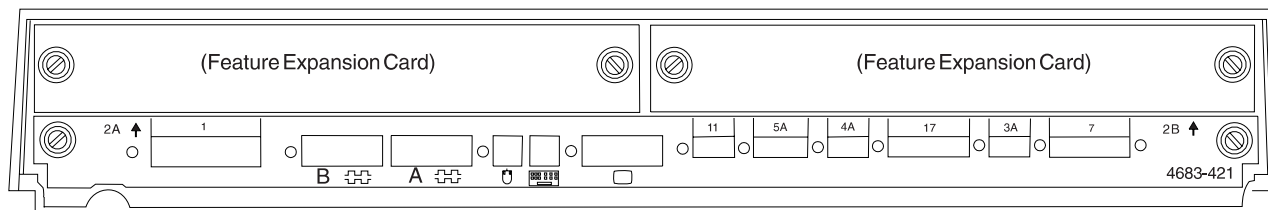

Figure 137. Rear of 4683-4x1 Point-of-Sale Terminal Base Unit
8. Check "Worksheet B—Terminal installation - 4683" on page 238 for each terminal in the terminal device group and mark an X on Figure 137 on page 308 to indicate the sockets in which devices are connected.